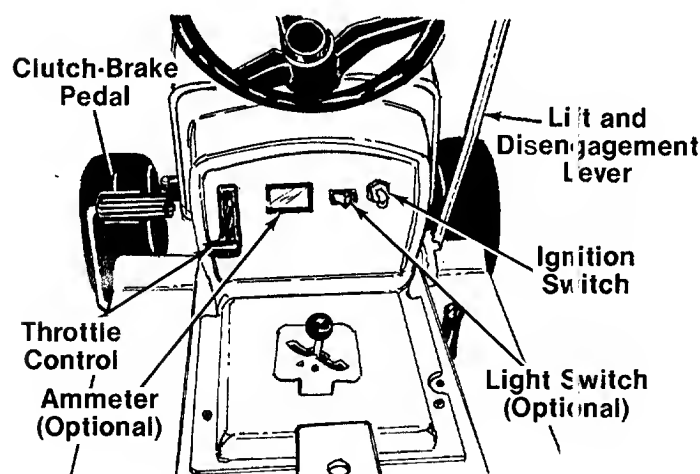

FIGURE 16.—Models 620, 638 and 698 Show/n
The throttle control is used to regulate the engine speed and to activate the choke on the engine. To get maximum efficiency from cutting, the throttle should be in the FAST position when operating the mower. Pushing the throttle all the way forward past FAST, will choke the engine. See figure 16.
The shift lever is located on the left side of the console and has three positions, "FORWARD," "NEUTRAL" and "REVERSE." See figure 16. The clutch-brake pedal must be depressed and the lawn tractor must not be moving when shifting gears. Do not force the shift lever. Release the clutch-brake pedal slightly to line up the shifting collar in the transmission. Then try to shift gears.
Turn the key to the "START" position to start the engine. When the engine is running, let the key return to the "ON" position. To stop the engine, turn the key to the left to the "OFF" position and remove it to prevent accidental starting. See figure 16.
Push the light switch to turn on the lights. The lights will only operate when the engine is running. See figure 16.
The ammeter registers the rate of battery charge or discharge. The ammeter will register on the discharging side when starting the engine. It should register on the opposite side (charging) when the engine is running in the fast position until the battery is completely charged. With a fully charged battery or with the engine idling, the ammeter will not show a charge. See figure 16.
The clutch-brake pedal is located on the left side of the lawn tractor. Depressing the clutch-brake pedal part way disengages the clutch. Pressing the pedal all the way down disengages the clutch and engages the disc brake. See figure 16.
4. Set the throttle control in the CHOKE position. See figure 16.
5. Turn the ignition key to the "START" position. When the engine is running, let the key return to the "ON" position. See figure 16.